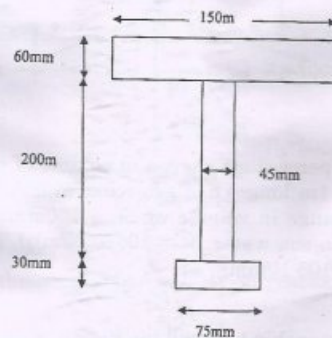

Fig 5.
16. (a) The cross section of the beam is shown in Figure 5. The beam is made of a material with permissible stress in compression and tension equal to 100 N/mm^2 respectively. Calculate the moment of resistance of the cross section when subjected to a moment causing compression at the top and tension at the bottom. Also calculate the compression in the top flange and the tension in the bottom flange corresponding to this moment. (15)